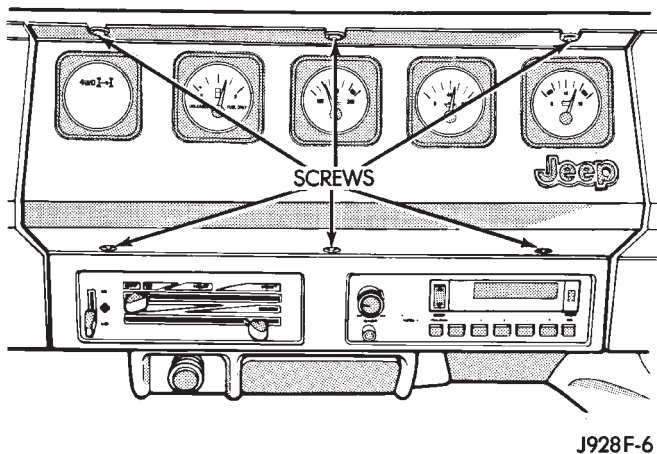

Fig. 1 Gauge Cluster Bezel Removal/Installation
- (1) Disconnect negative cable from battery.
- (2) Remove gauge cluster panel bezel attaching screws (Fig. 1).